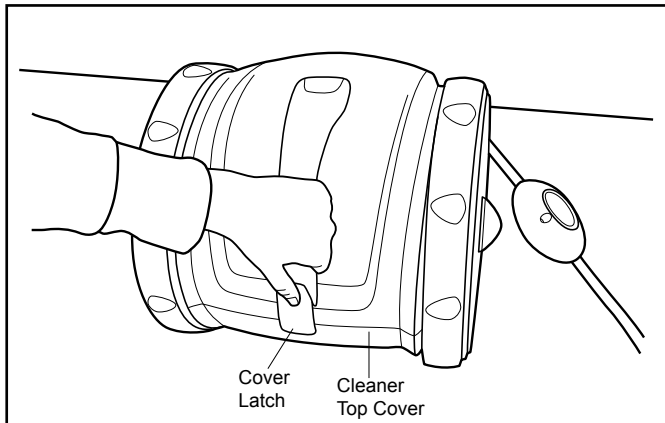

Figure 9. Open Cover of the Cleaner
3. Push the cover latch and lift the cover. Refer to Figure 9.
4. Lower the cover and allow the cover latch to lock the top cover in place. Refer to Figure 9.